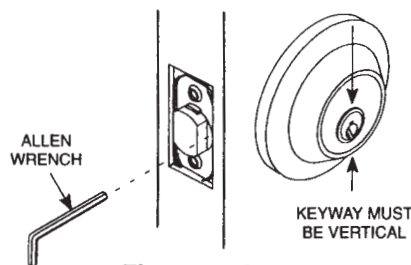

Figure 7-2
- See Figure 7-2. Make sure cylinder lines up on door as shown.